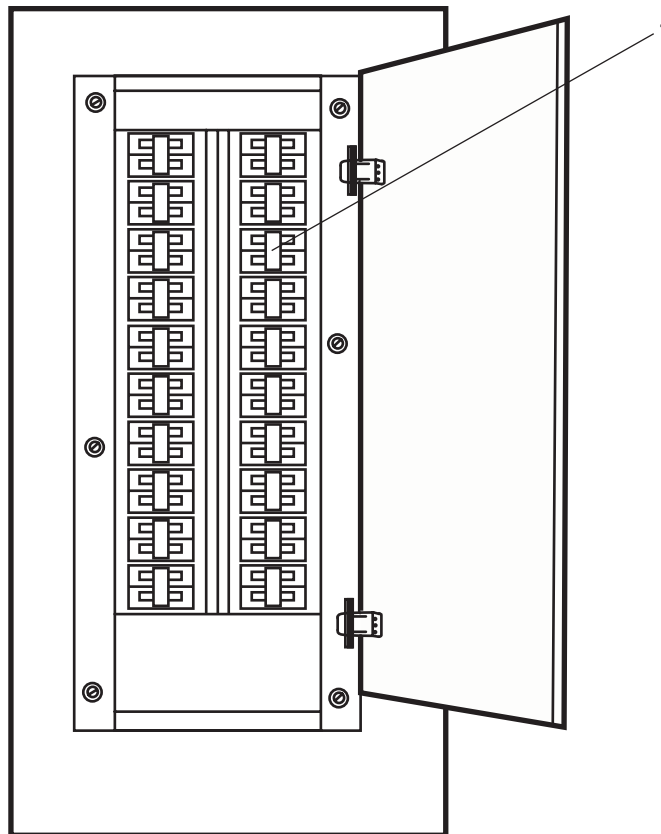

Figure 1. 120V Emergency Distribution Panel No. 1
- a. In the engine room, on the STARBOARD side, at the 120V emergency distribution panel No. 1, set the TLI SYSTEM circuit breaker (figure 1, item 1) to ON.